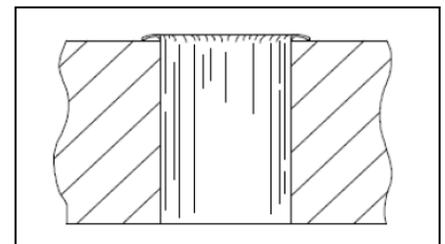

Figure 9 Doughnut Burr
- g. **Doughnut Burr** (see Figure 9):